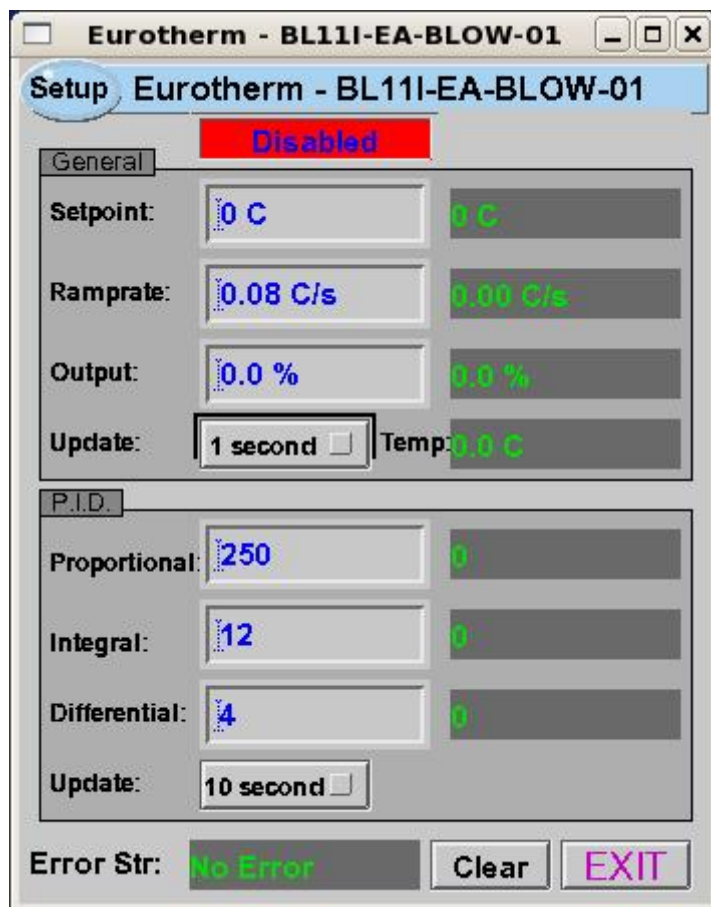

Figure 18 Eurotherm controller window (for hot air blower, capillary and flat plate furnaces)
- Select the appropriate option for your experiment to open another window. These are provided for reference as Figure 18 and Figure 19 but will not be discussed further as users normally control temperature from scripts using GDA.
The hot air blower, capillary furnace and flat plate furnace all use Eurotherm controllers similar to Figure 18.